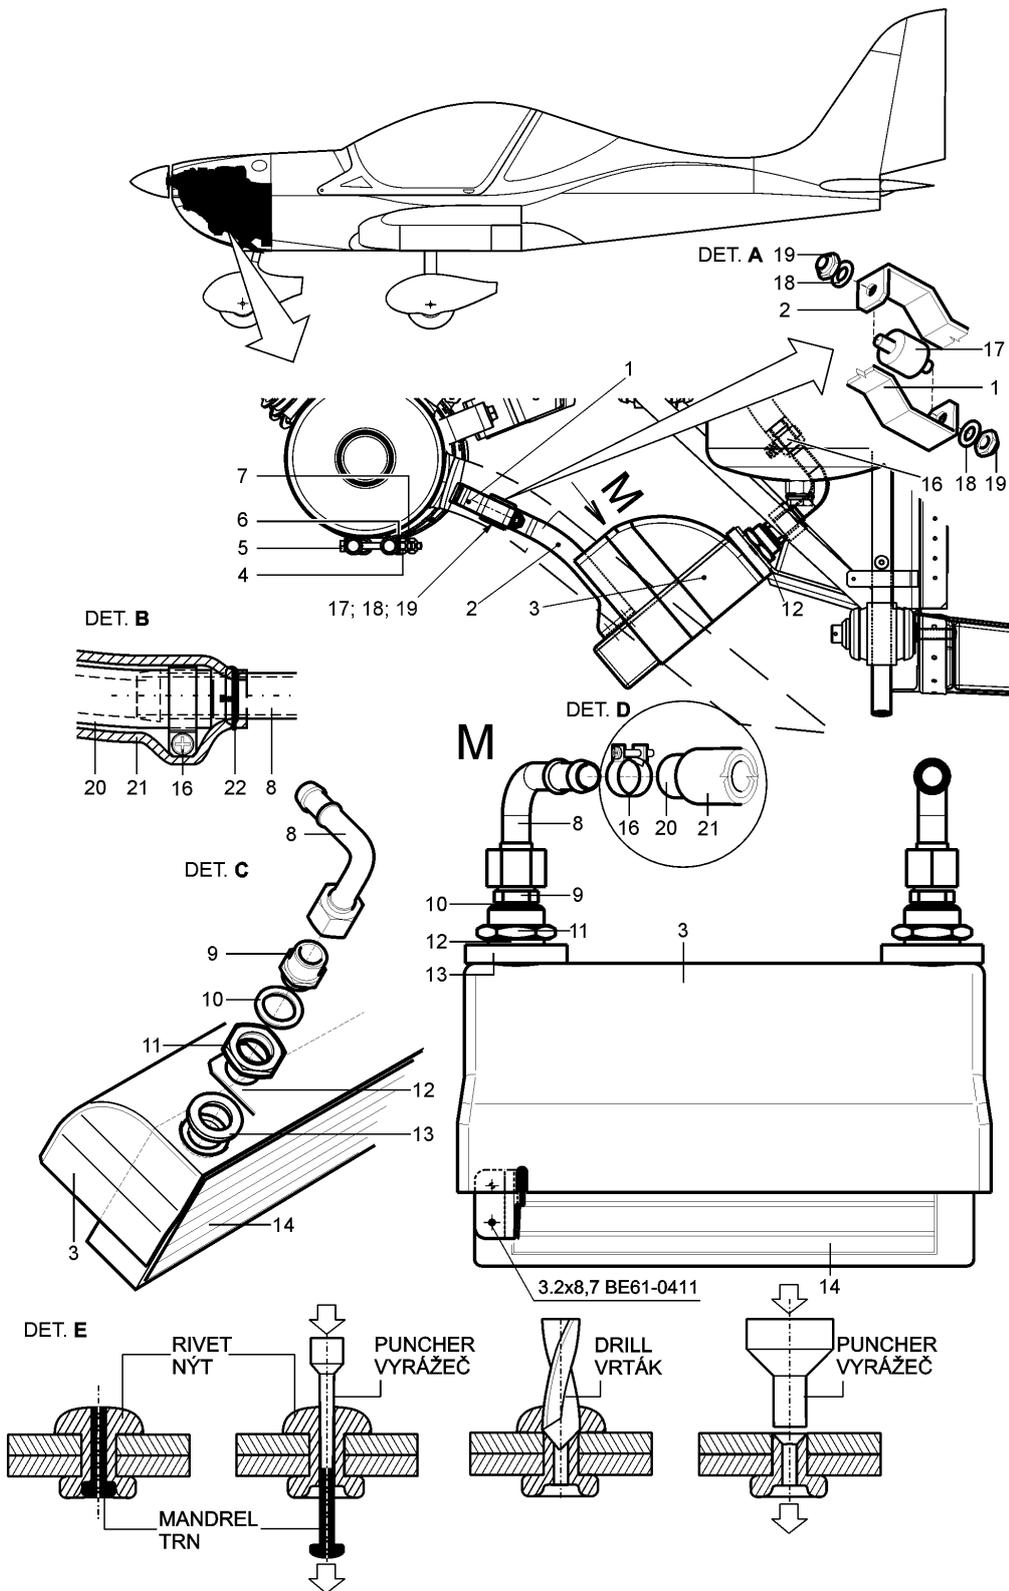

Fig. 1 Dismantling / installing the radiator
Drain the oil from the engine oil system according to the relevant chapter of the MM Harmony LSA. According to Fig.1, detail A in this bulletin, remove the silent block (17) secured by nuts (19) with washers (18).
Legend to Fig. 1 Dismantling / installing the radiator